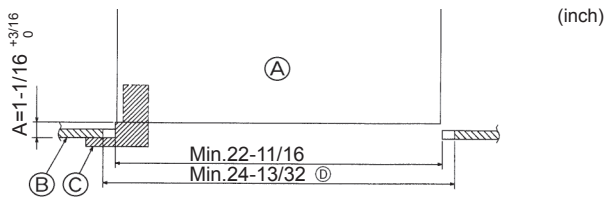

Fig. 7-2
①	Grille	1	650 × 650, 25-19/32 × 25-19/32
②	Screw with washer	4	M5 × 0.8 × 25, M5 × 1/32 × 31/32
③	Gauge	1
④	Fastener	2
⑤	Band	2
7.2. Preparing to attach the grille (Fig. 7-2)